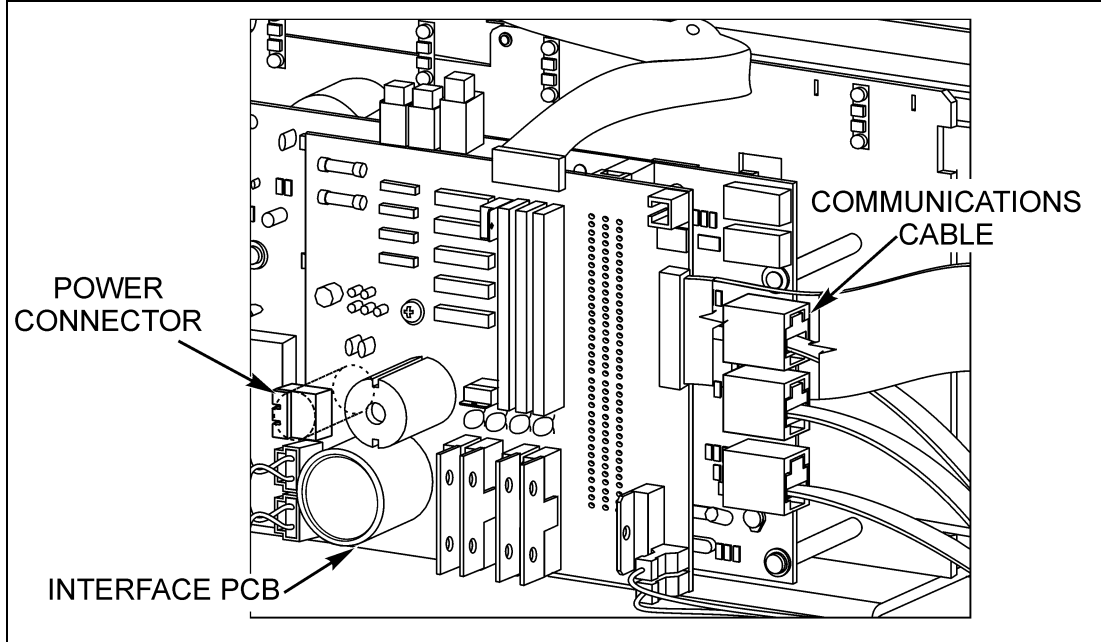

Figure 2-3: Disconnect the Power and Communication Cables
3. Refer to Figure 2-3. Reach behind the unit to label and disconnect any Communications Cables from the Com ports on the Interface Board.